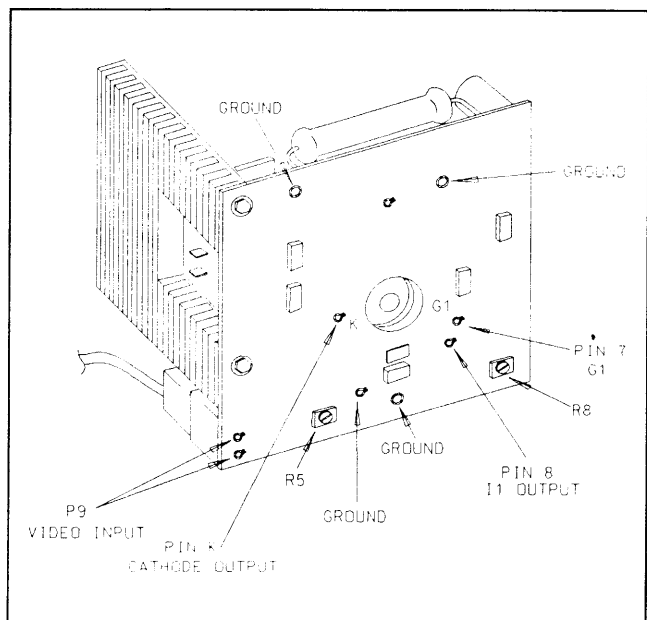

FIGURE 7-4. Video Output Module (back)
**NOTE:** If the raster changes in brightness when the voltmeter is connected, insert a 20K resistor in series with the voltmeter. Keep the body of the resistor close to the cathode pin. See Figure 7-4.